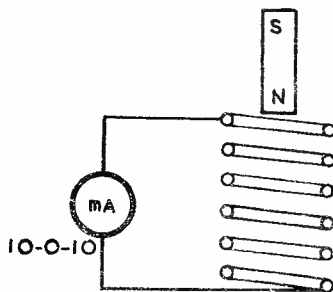

FIG. 2.
- STEP 5.** Connect the circuit as shown in Fig. 2 with the milliammeter connected to the smaller coil.